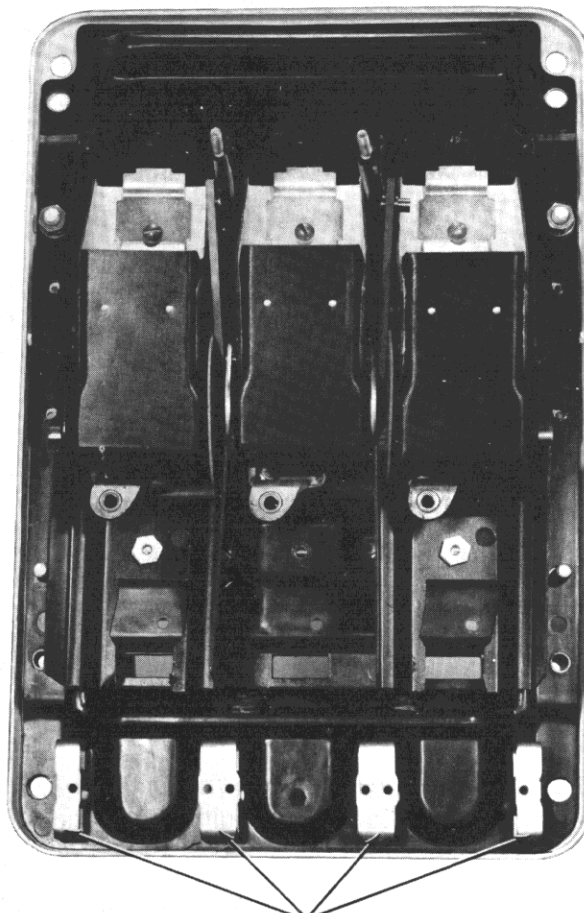

**Fig. 1 — Front view of front frame
7. On electrically operated breakers equipped with EC trip devices, the "Y" relay is mounted on the front frame at the right side of the operating mechanism. To provide mounting space for the MicroVersaTrip® RMS-9 flux shift trip device, remove the "Y" relay and remount it on the left end of the arc quencher retainer as shown in Figs. 1 and 2 (using hardware and parts included). Modify the breaker's wiring harness to suit.